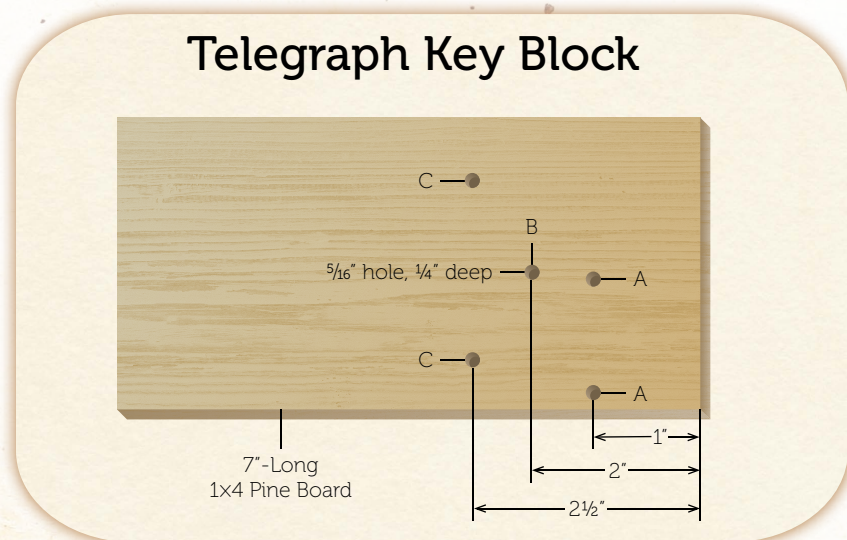

Figure 2.5: Top view of the telegraph block (just holes)
5. Refer to Figure 2.5, which shows the telegraph key's base, for a visual and drill the following holes.
- a. As shown in Figure 2.5A, drill a centered $\frac{5}{16}$ -inch-diameter hole (labeled "B" in Figure 2.5) 2 inches from the edge of the board for the dowel that will hold the spring.
- b. Using the steel mending plate as a guide, drill two $\frac{1}{8}$ -inch pilot holes (labeled "A" in Figure 2.5) for the #8 round head wood screws 1 inch from the edge of the 7-inch-long 1×4 wooden board.
- c. As shown in Figure 2.5C, drill two more $\frac{1}{8}$ -inch pilot holes (labeled "C" in Figure 2.5) $2\frac{1}{2}$ inches from the edge of the 1×4 for the corner braces. The holes should be placed so the vertical sections of the corner braces are 1 inch apart.